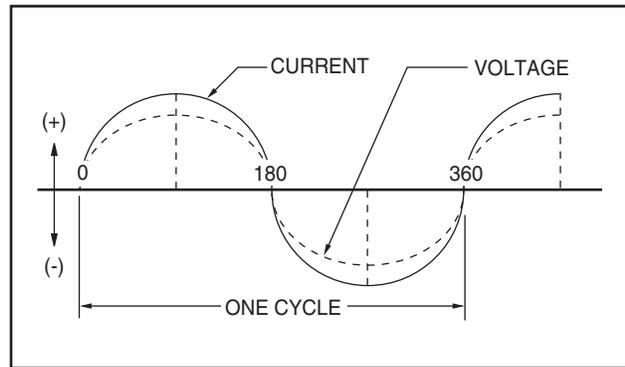

Figure 1-5. – Alternating Current Sine Wave
As the MOTOR turns, its magnetic field cuts across the stationary STATOR. A voltage is induced into the STATOR windings. When the magnet's NORTH pole passes the STATOR, current flows in one direction. Current flows in the opposite direction when the magnet's SOUTH pole passes the STATOR. This constant reversal of current flow results in an alternating current (AC) waveform that can be diagrammed as shown in Figure 1-5.